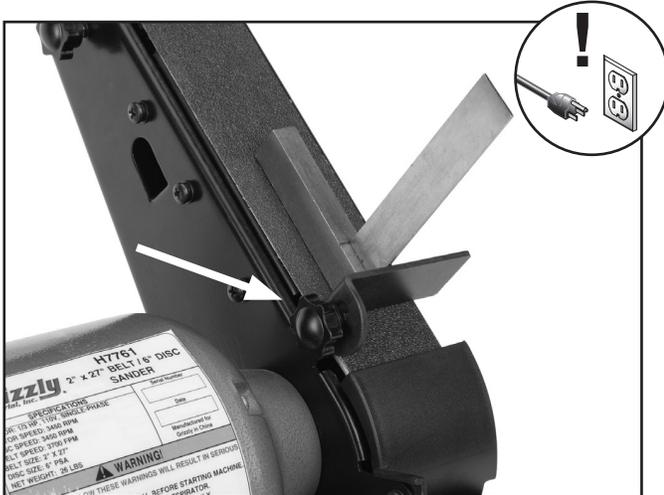

Figure 8. Squaring the back stop
- Attach the back stop with the knob, washer and hex nut as shown in **Figure 8**.
- Square the back stop as shown in **Figure 8** and tighten the back stop knob.